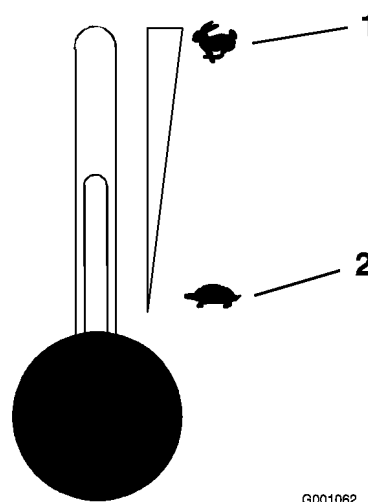

Figure 15
- Move the throttle lever midway between the slow and fast positions (Figure 15).